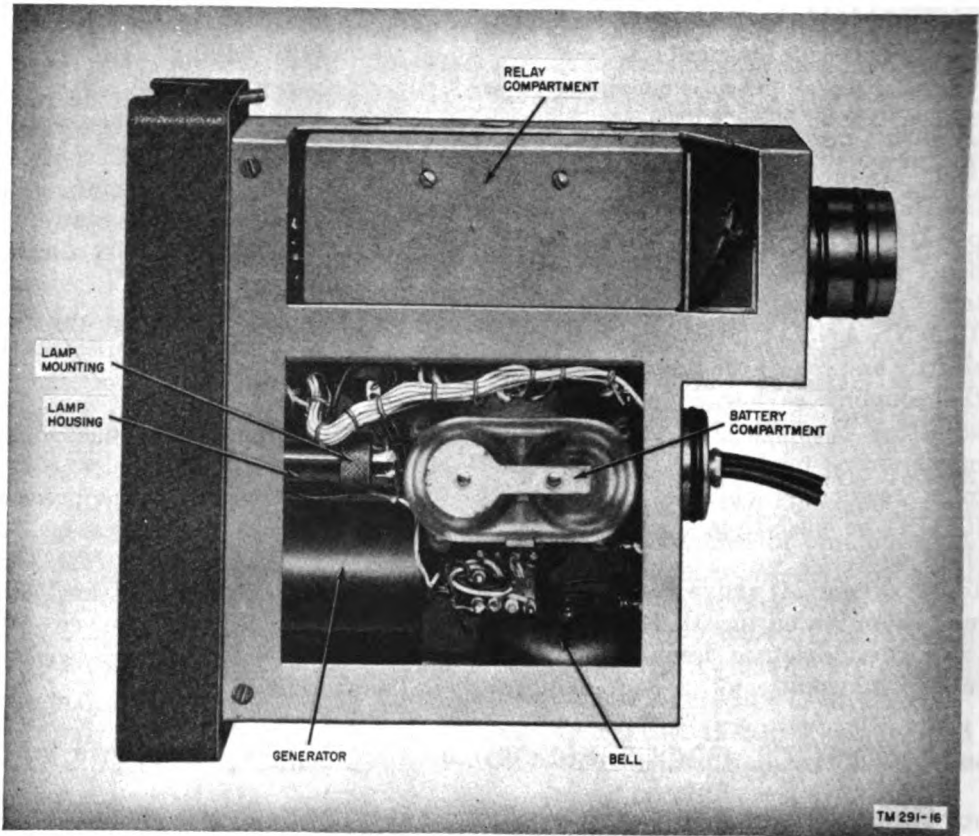

Figure 29. Local Control C-434/GRC, batteries installed.
- (1) Loosen the screw fasteners on the panel and remove the panel-chassis assembly from the case.
- (2) Insert two 1½-volt Batteries BA-30 into the battery compartment and place the chassis-mounted switch (S-1) in the BELL position. Replace the panel-chassis assembly in the case (fig. 29).